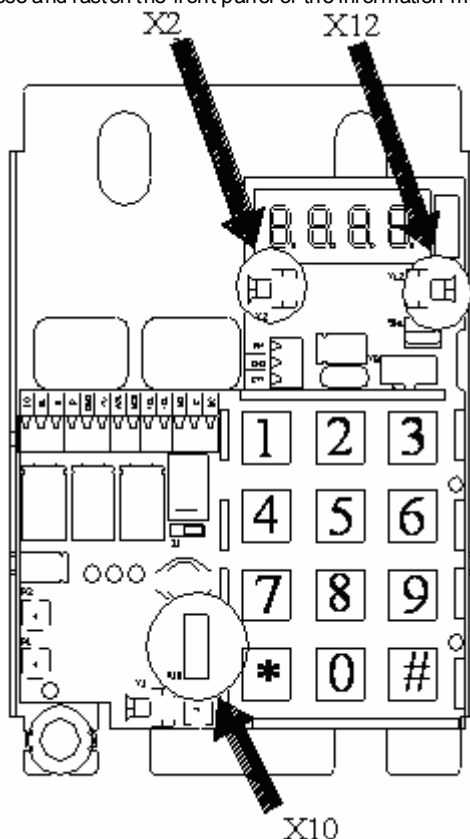

Fig. 4 (PCB assembly kit).
3. Disconnect terminal **X2** (speaker), **X10** (Dallas key reader), **X12** (backlight information panel) **Fig. 4**.
13. Connect terminal **X2** (speaker), **X10** (Dallas key reader) and **X12** (backlight information panel). **Fig. 4**.
14. Connect terminal **X2** (speaker), **X10** (Dallas key reader) and **X12** (backlight information panel). **Fig. 4**.